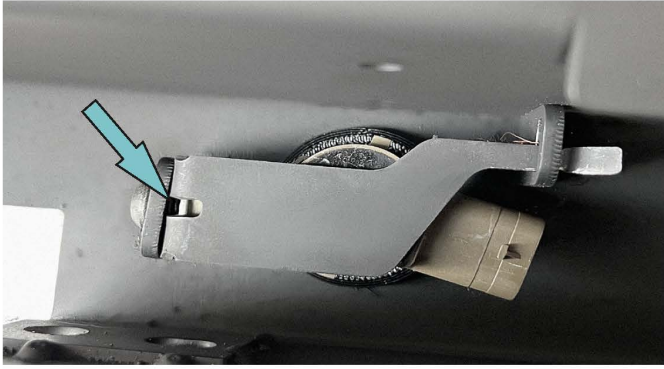

Fig. 19
19. Put OE parking sensor into central part of the bumper body and fix them, using parking sensors holding brackets (item.12,13), screws M6 and washers 6 (item A, E) (Fig.19).